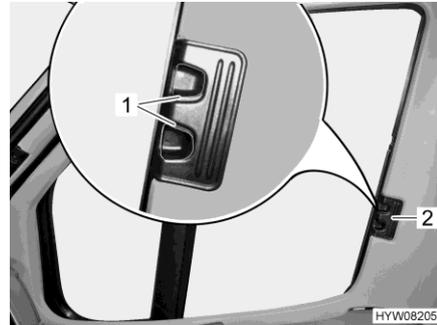

Fig. 24 Roman shade for the driver's / front passenger's window
- Use handle (Fig. 24,2) to push in the Roman shades for the driver's and passenger's window as far as possible.
- Allow the release handles (Fig. 24,1) to engage.